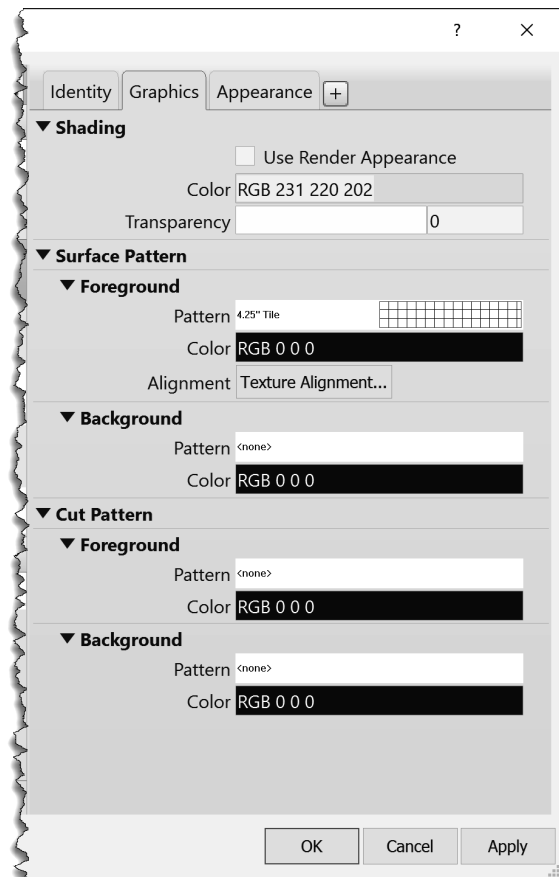

FIGURE 4-4.3 Material Browser; Graphics tab
17. Set the *Cut Pattern* for the tile to **None** (Figure 4-4.3); click the preview and then click the *No Pattern* button.